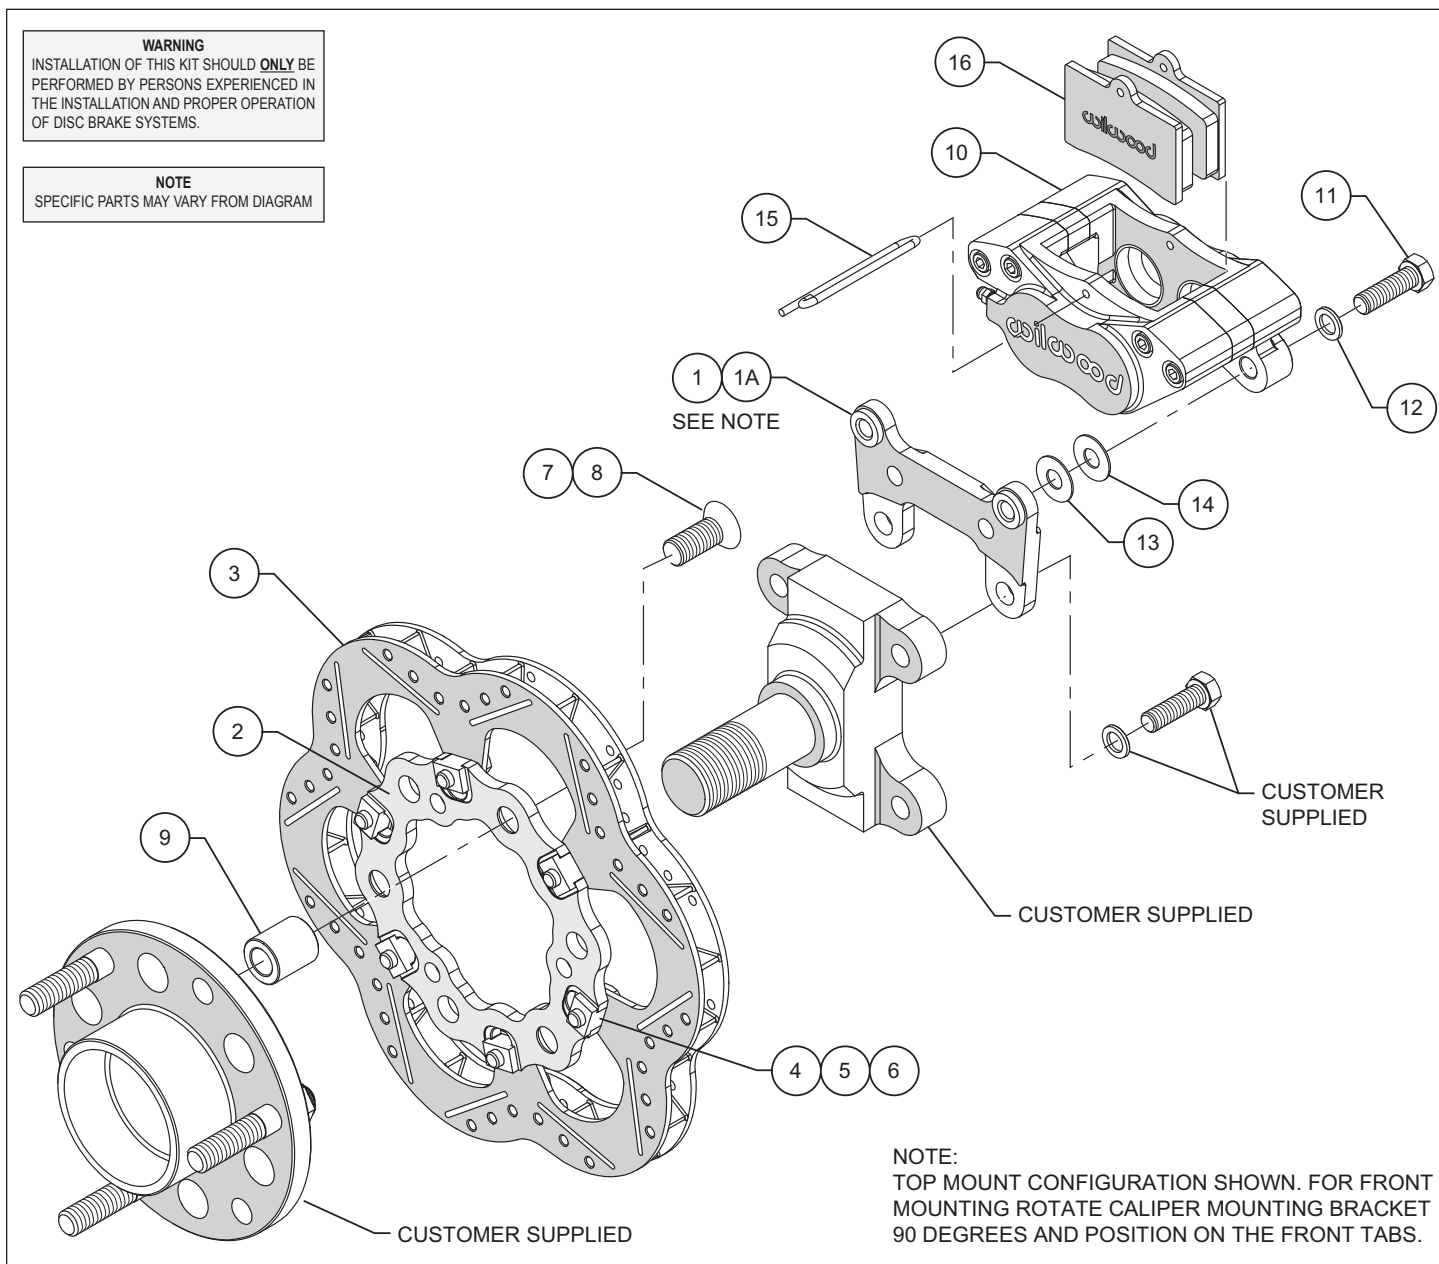
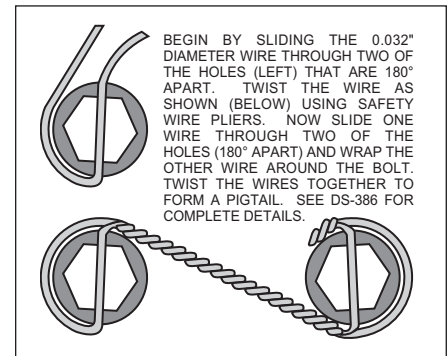

Figure 1. Typical Installation Configuration
Figure 2. Safety Wire Diagram
- Install the caliper mounting bracket (1 for front mount) or (1a for top mount) onto the inboard side of the spindle mounting tabs using customer supplied bolts and washers by first coating bolt threads with red *Loctite*[®] 271 and sliding bolt through washer, then through caliper mounting bracket (1 or 1a) and thread into the tabs on spindle (see figure 1). The bracket must tighten squarely against the inboard side of the spindle mounting tabs. Inspect for interference from casting irregularities, machining ridges, burrs, etc. Torque bolts to specification.
- Mount the rotor adapter (2) to rotor (3) by placing rotor adapter with t-notches facing away from the rotor lugs against the outside face of the rotor lugs using bolts (4), and washer (5) slid through rotor holes from the backside and into the t-nut (6). Finger tighten. After all t-nuts have been installed, torque bolts in an alternating sequence to 220 ± 20 **in-lbs** (~19 ± 1 ft-lb). Please refer to Wilwood's data sheet DS-669 (available at www.wilwood.com/Pdf/DataSheets/ds669.pdf) for complete t-nut bolt kit installation instructions .
- **NOTE:** *When cross-drilled bolts are supplied with the rotor bolt kits, the additional step of safety wiring bolts is recommended.* Safety wire bolts using standard 0.032 inch diameter stainless steel safety wire as shown in figure 2. PPlease refer to Wilwood's data sheet DS-386 (available at www.wilwood.com/Pdf/DataSheets/ds386.pdf) for complete safety wire installation instructions.